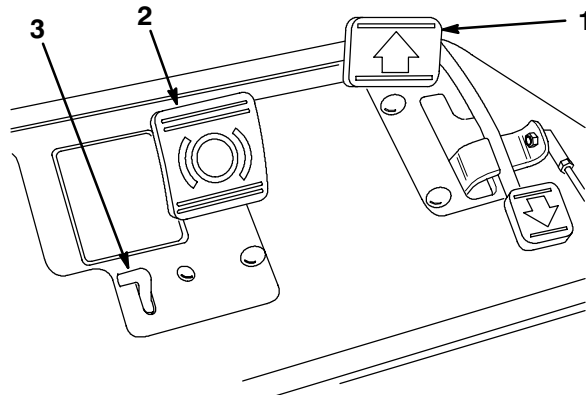
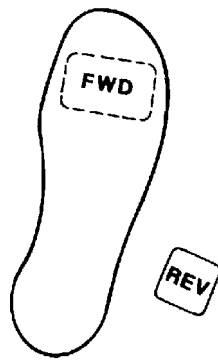

Figure 21
Figure 22
The traction pedal (Fig. 21) has three functions: (1) to make the machine move forward; (2) to move it backward; and (3) to stop machine. Depress the top of the pedal to move forward and the bottom of the pedal to move backward or to assist in stopping when moving forward. Also, allow the pedal to move to the neutral position to stop the machine. For operator comfort, do not rest the heel of your foot on reverse, when operating forward (Fig. 22).
The Brake Pedal (Fig. 21) actuates an automotive drum-type mechanical brake located at each traction wheel.
Depressing the brake pedal to actuate the brake assembly, then depressing the small lever indicated (Fig. 21) will keep the brakes actuated for parking. Disengage the parking brake by depressing the brake pedal. Form the habit of locking the parking brake before you leave the machine.